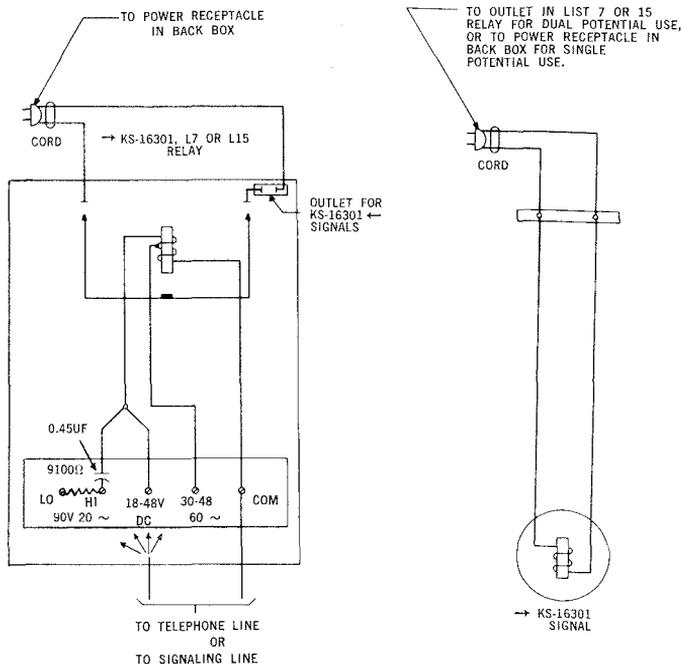

Fig. 1 — KS-16301 Signal Connections
**2.01** Connections for relays and signals are shown in Fig. 1. Also shown are the voltage values and terminal locations on the List 7 or 15 Relay.